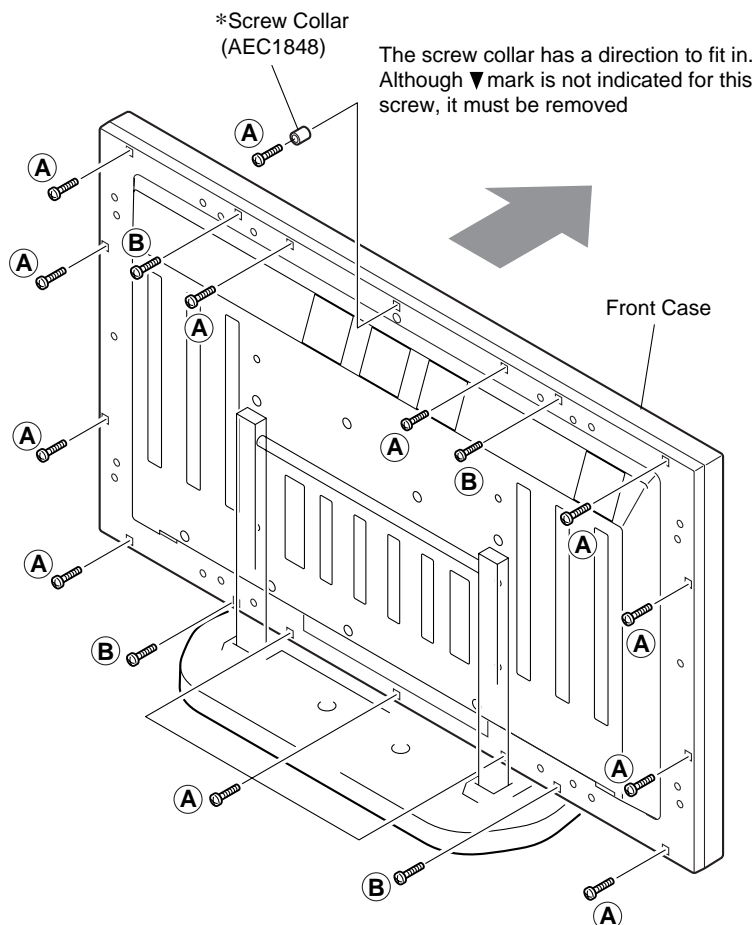

Figure 1 Removing Front Case
1. Removing Front Case (Figure 1)
There is one screw with a screw collar. Pay attention to the direction of the collar. (Refer to Figure 1)